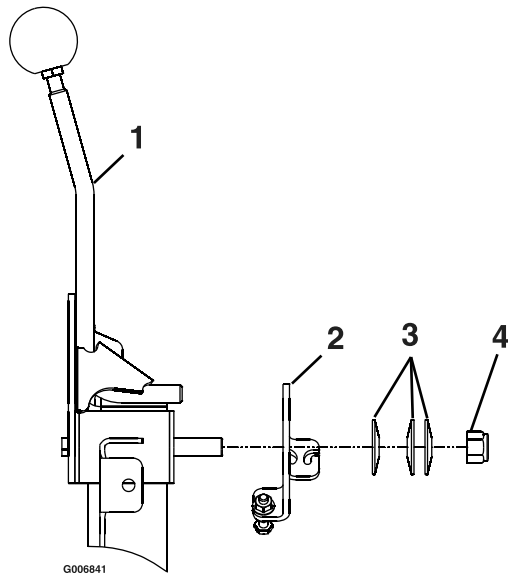

Figure 16
2. Tension in speed control lever can be adjusted by adjusting the tightness of the lever pivot bolt, which is located under the seat near the speed control lever (see Figure 16).